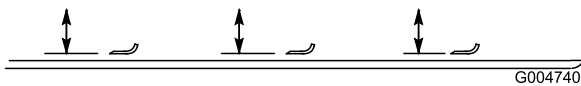

Figure 84
2. Rotate the blade until the ends face forward and backward (Figure 84). Measure from the inside of the cutting unit to the cutting edge at the front of the blade. Remember this dimension.